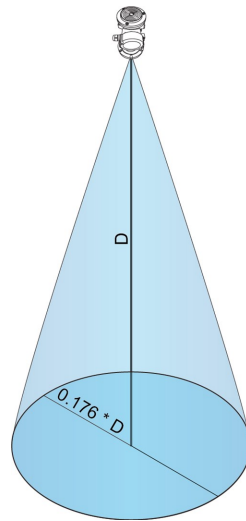

FIGURE 7-2. Beam path clearance
- **Obstructions:** Mount the sensor away from obstructions (both above and under water) in the radiation beam path, which spreads as it leaves the sensor. Obstructions to be aware of include excessive waves, splashing, pipes, wires, rocks, bridge piers, and logs. Determine the required clearance for the beam angle using the following formula and FIGURE 7-2 (p. 14).